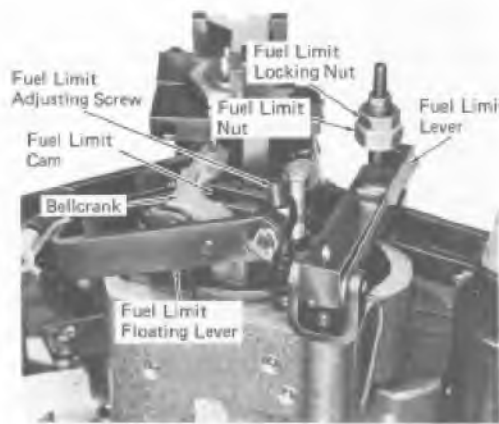

Fig. 12-10 -Fuel Limit Adjustments
5. Measure and record the height of the fuel limiter cam, Fig. 12-10, from a convenient reference surface.
In response to a demand for fuel, the governor pilot valve is lowered to permit governor oil to raise the power piston. The power piston upon being raised will also lift the fuel limit floating lever, Fig. 12-10. If sufficient air is not available for proper combustion, the hydraulic amplifier piston, contacts the fuel limit lever which will raise the shutdown bushing and governor power piston pilot valve. The governor oil port to the power piston will then be closed and the upward or increase fuel movement of the power piston will be stopped.